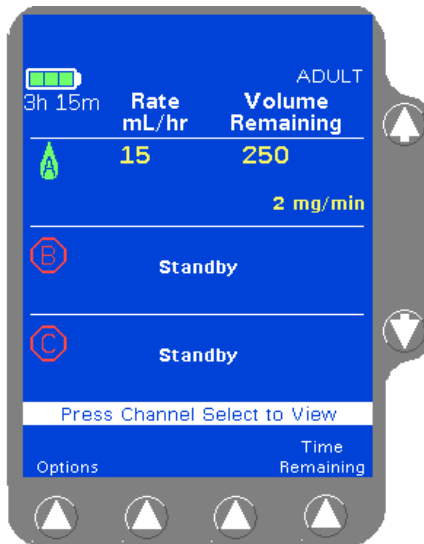

Figure 4-57 Main Display
14. Press the appropriate **START** key to begin the infusion. The Main Display screen shows the rate, volume remaining, and the dose (Figure 4-57).